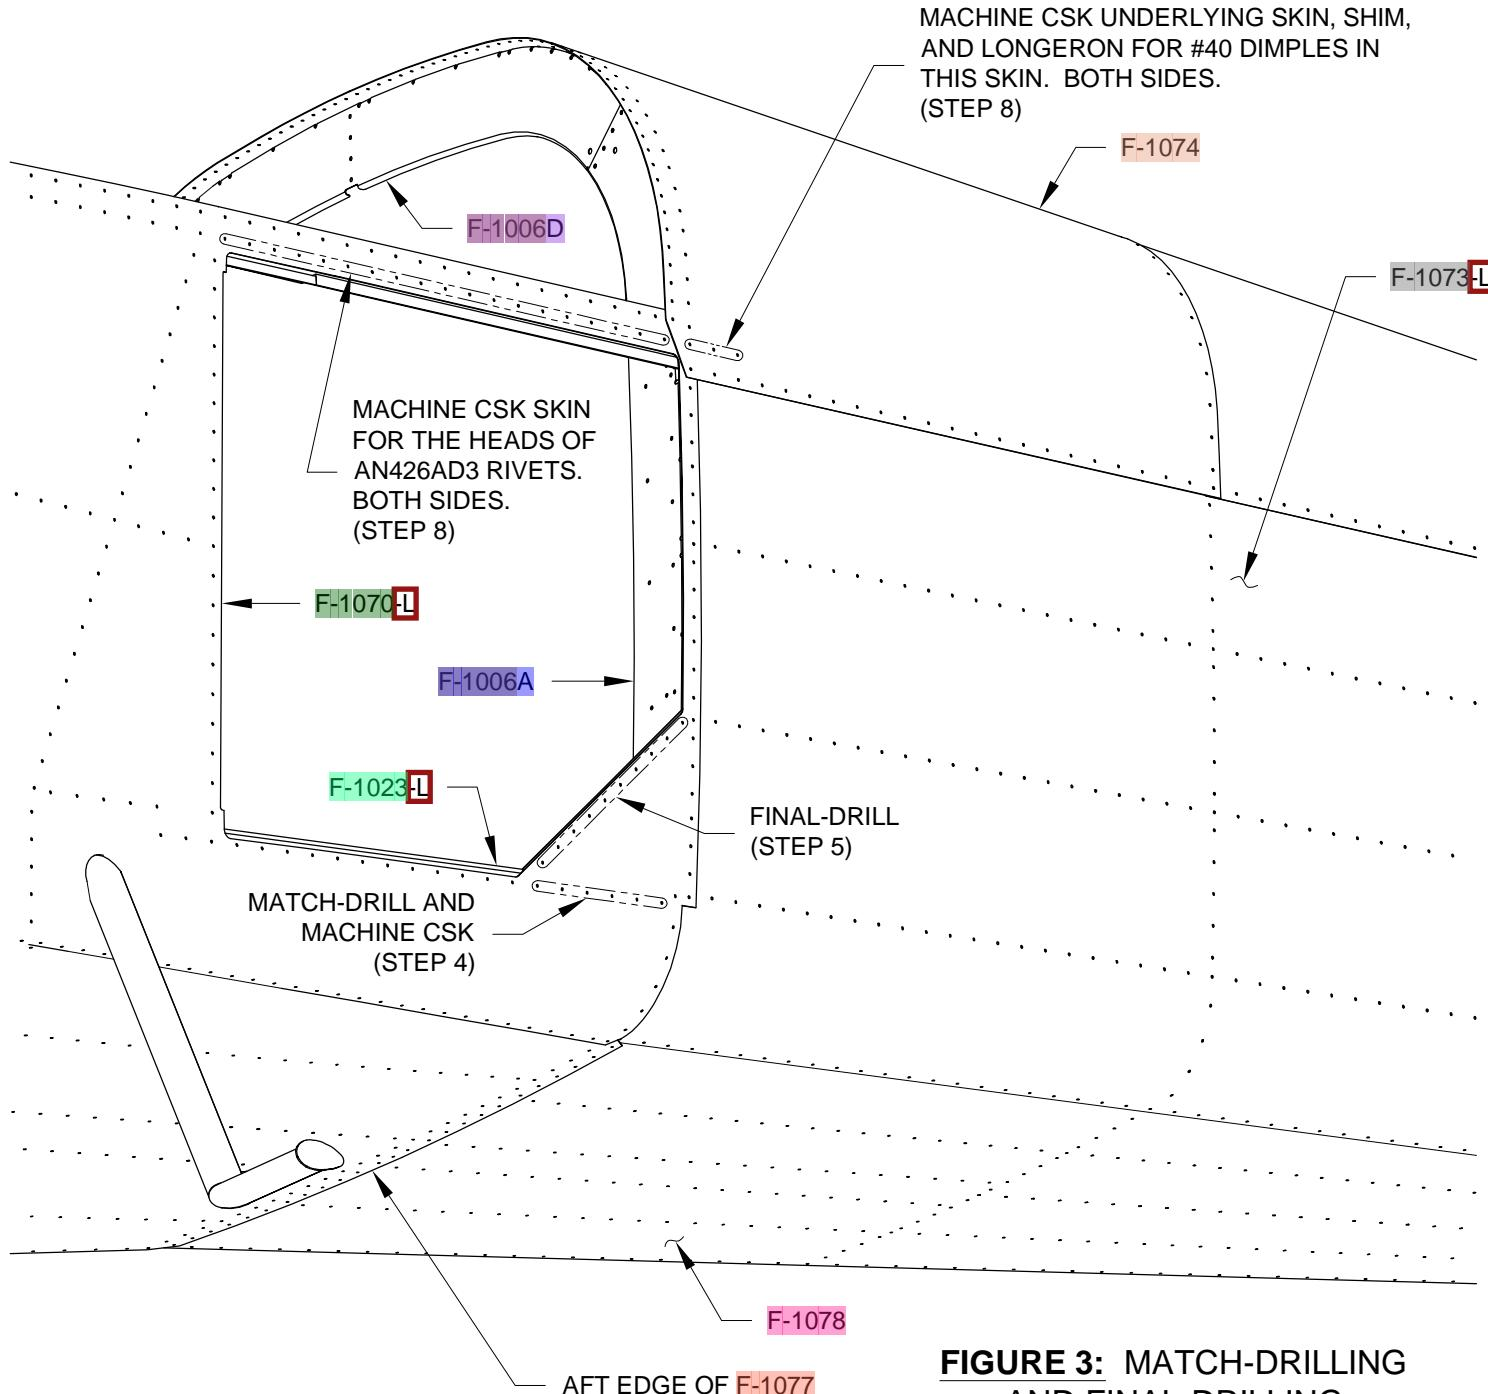

FIGURE 3: MATCH-DRILLING AND FINAL-DRILLING
Step 4: As indicated in Figure 3, match-drill #40 the six holes in the F-1070-L Mid Side Skin (aft of the bottom edge of the baggage door cut-out) into the F-1073-L Tailcone Side Skin. Be sure to drill perpendicular to the skin since these holes are common to the preexisting holes in the F-1023-L Baggage Floor Angle and the F-10100A Baggage Door Shim.
Step 5: Final-Drill #40 the holes along the angled edge of the baggage door cut-out (see Figure 3) common to the F-1070-L Mid Side Skin and F-1073-L Tailcone Side Skin.
Step 6: Final-Drill #40 the holes common to all of the skins and the F-1006A, B, C, and D Bulkheads (the F-1006B and C Bulkheads are not shown in Figure 3).
Step 8: Remove the F-1074 Tailcone Forward Top Skin. Machine countersink the holes in the F-1070-L and F-1070-R Mid Side Skins and the F-1046-L and F-1046-R Mid Fuse Longerons as instructed in Figure 3.
Step 6: Dimple the three holes in both sides of the F-1074 Tailcone Forward Top Skin (see Page 33-4, Figure 3) which are common to the F-1046 Mid Fuse Longerons.